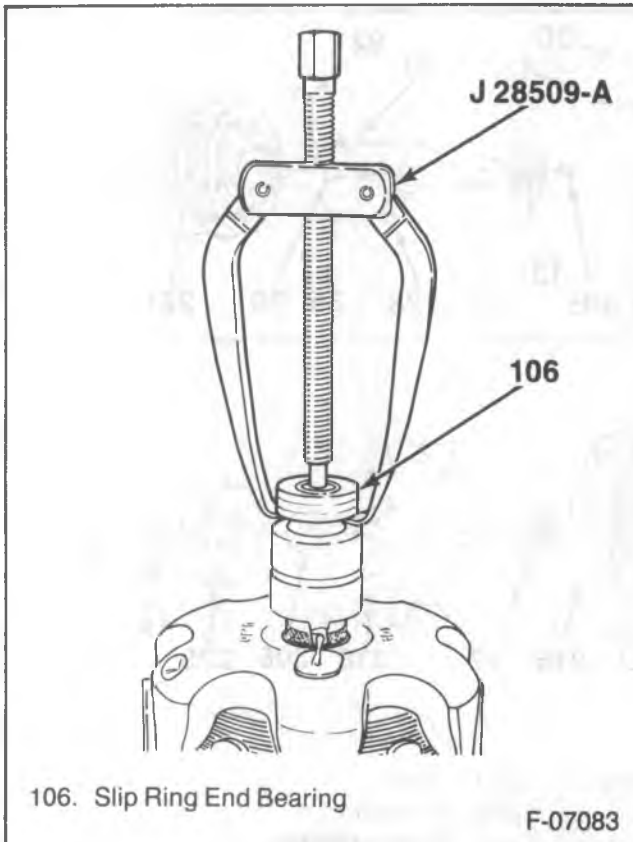

Figure 6—Removing the Slip Ring End Bearing
7. Slip ring end bearing (106) from the rotor using J 28509-A (figure 6).